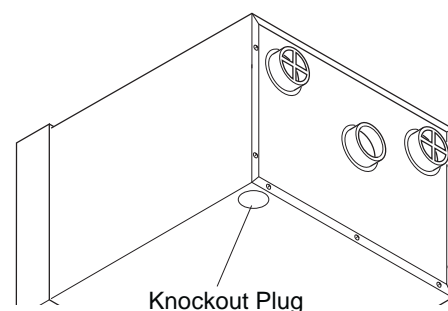

Figure 13 - Location of Knockout Plug
8. Locate knockout plug in furnace cabinet. Knockout plug is in lower left rear of furnace cabinet (as viewed from rear, see Figure 13). Remove knockout plug.